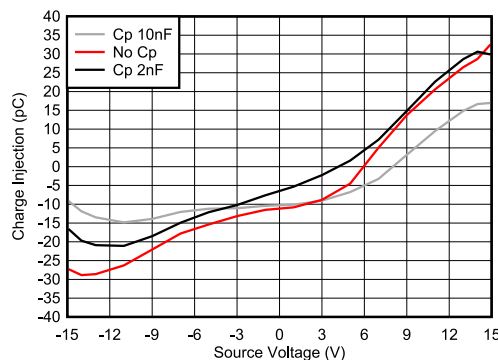

图 8-2. Charge Injection Compensation
The TMUX7219M contains specialized architecture to reduce charge injection on the source (Sx). To further reduce charge injection in a sensitive application, a compensation capacitor (Cp) can be added on the drain (D). This will ensure that excess charge from the switch transition will be pushed into the compensation capacitor on the drain (D) instead of the source (Sx). As a general rule, Cp should be 20× larger than the equivalent load capacitance on the source (Sx). 图 8-2 shows charge injection variation with source voltage with different compensation capacitors on the drain side.